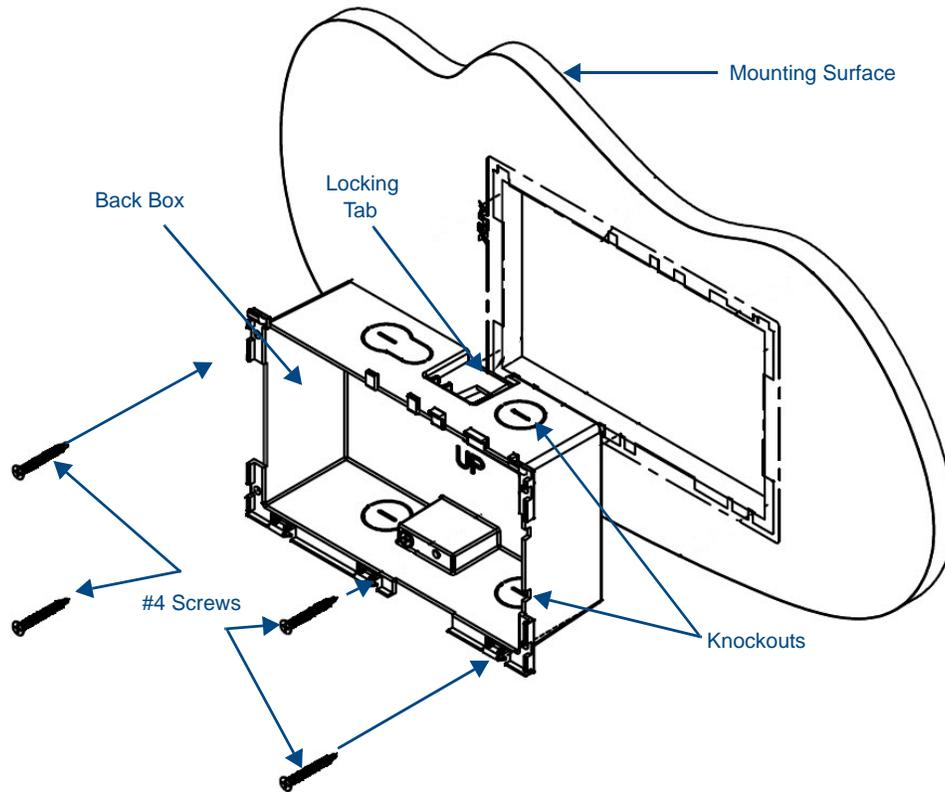

FIG. 17 MXD-701 Back Box Installation (Landscape)
- Thread the incoming Ethernet from their terminal locations through the surface opening (FIG. 17). *Leave enough slack in the wiring to accommodate any re-positioning of the panel.*
- Remove the back box knockouts (FIG. 17) and thread the incoming wiring through the knockout holes. To facilitate installation, thread the Ethernet cable through a bottom knockout (Landscape) or a right-side knockout (Portrait), and the USB cable through a top knockout (Landscape) or left knockout (Portrait)
- For additional strength, #4 mounting screws (not included) may be secured through circular holes located at the left and right sides of the MXD-701 (FIG. 17). In order to prevent damage to the touch panel, make sure that these are flush with the back box.